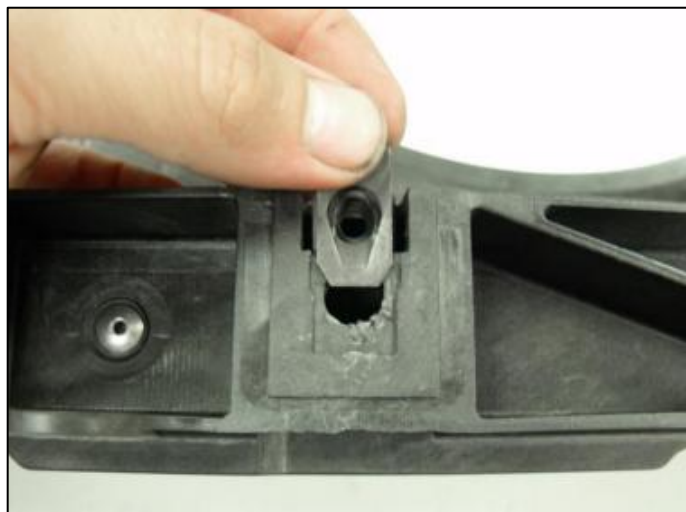

Figure 9
15. Locate (2) two M6 threaded U-Clips. Slide the (2) two U-Clips onto the lower driver side Core Support. There are (2) two blank spots where they can slide on. *Figure 9.*
16. Temporarily position the Oil Cooler Core to the Core Support and over the U-Clips. The Upper Support Bracket should sit behind the Center Core Support Brace. Use (2) two M6 x 1.0 Flanged Head Bolts, 20mm to secure the Oil Cooler Bracket to the U-Clips. *Figure 9.*